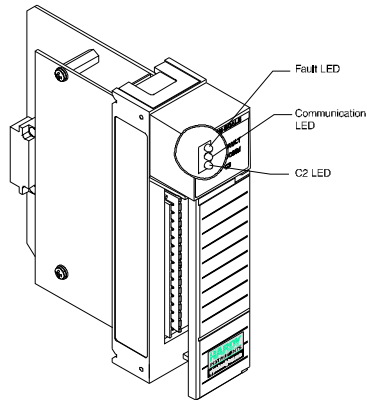

FIG. 5-4 C2 LED
- Step 3. Press and hold “The Button” until the C2 LED goes off. (See Fig. 5-4)